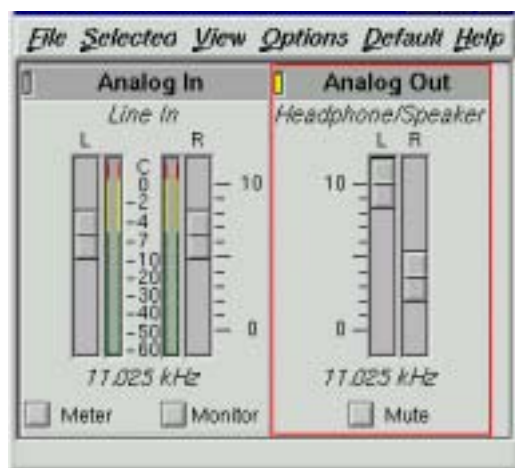

Figure 8-3 Audio Panel
- 4.) Leave all audio panel sliders at their default positions, as shown in Figure 8-3.